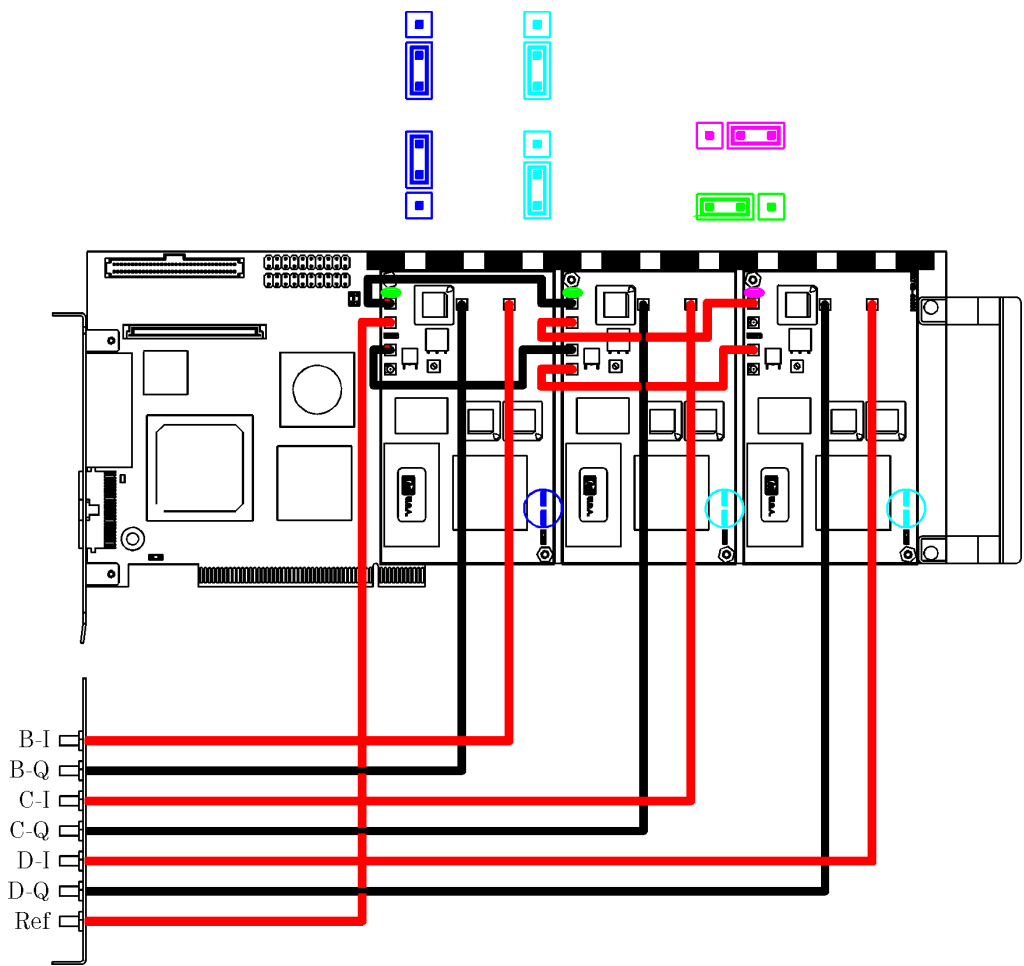

Figure 1-14 Example showing 3 HP E2748As installed in Dakar PCI DSP module
- b. If you have more than one HP E2748A, connect the supplied mini-to-mini cable from P8 or P13 on the first HP E2748A to P8 or P13 on the second, from P8 or P13 on the second to P8 or P13 on the third. See Figure 1-14 on page 1-23 for an example of cable routing.
- b. If you have multiple HP E2748As installed in the DSP module, connect a jumper to P10 pins 1 and 2 on the last HP E2748A in the frequency reference daisy chain to terminate the external frequency reference in 50 ohms. See Figure 1-14 on page 1-23 for an example of correct jumper positions.